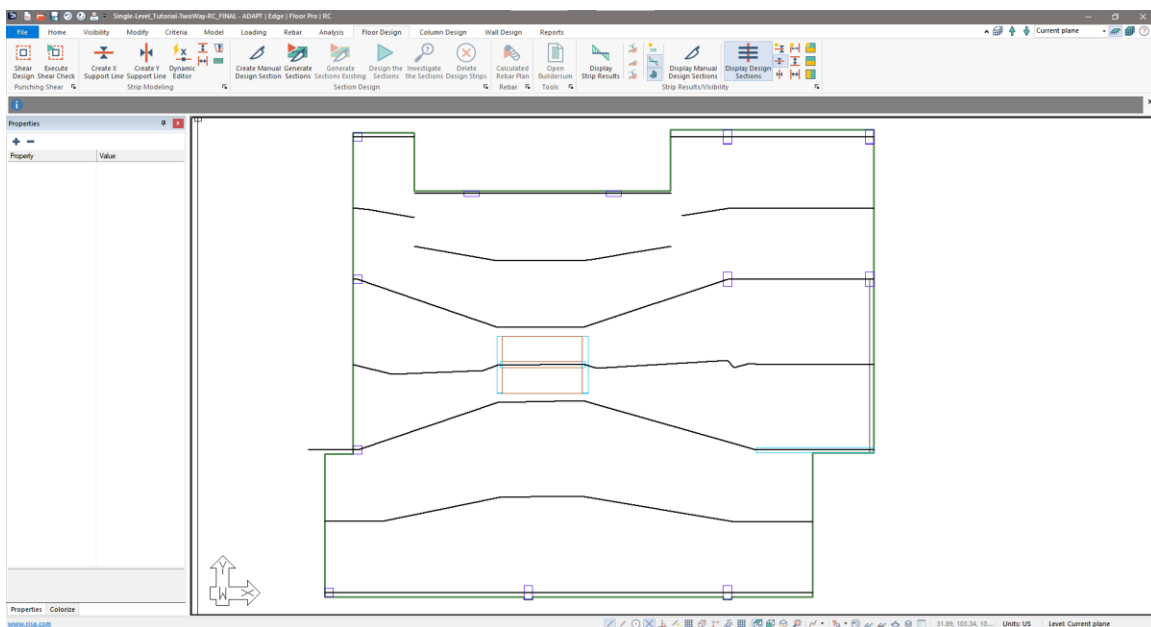

Figure 6-21
- Click Close on the *Support Line Dynamic Editor*. The user should now see the middle strips created on plan in with the column strips in black as shown in **FIGURE 6-21**.